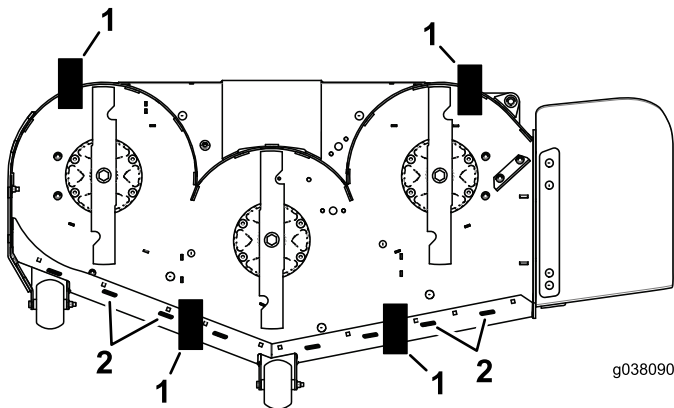

**Figure 87**
10. Slowly loosen the adjusting screw on the lift-assist spring until you can remove the screw (Figure 87).